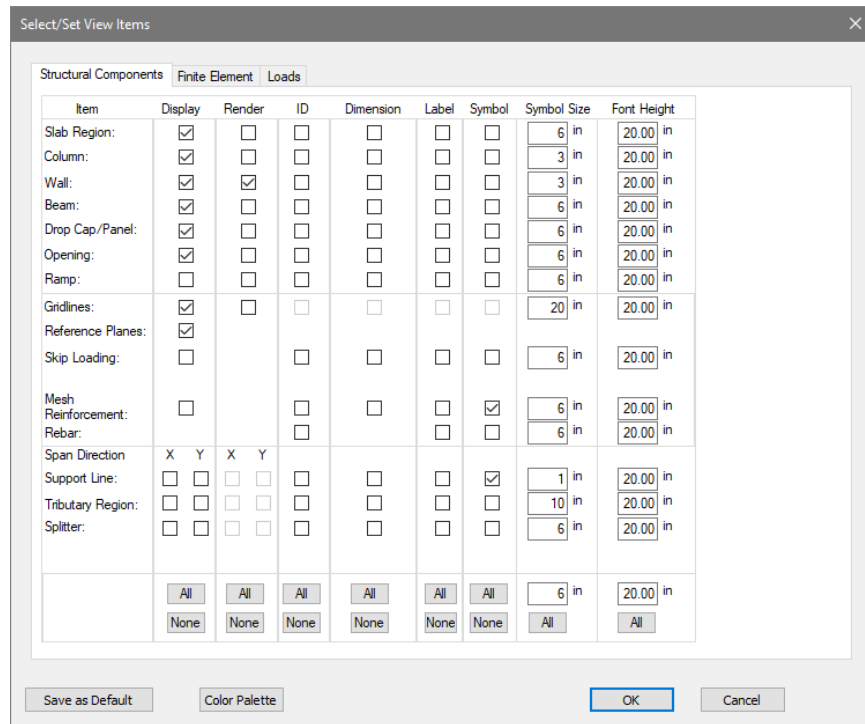

Figure 4-19
- On the *Structural Components* tab, make the selections as shown in **FIGURE 4-19**.
- Click on the **Zoom Extents** icon. The user should see the Level 4 floor plan modeled within Builder as shown in **FIGURE 4-19**.